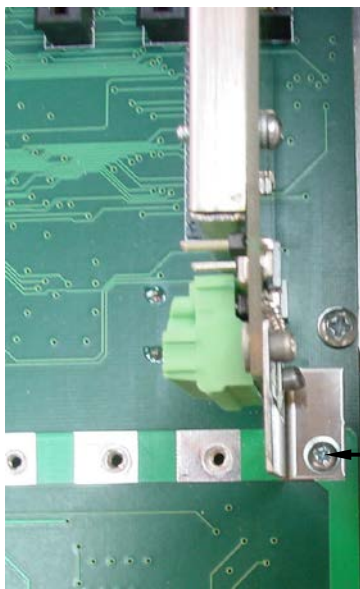

Figure No. 6
- Remove the screw securing the 825 Scale Input Board (825-SIB) to the main PC board and then lift the 825-SIB straight up to remove it from the base enclosure. See Figure No. 6.